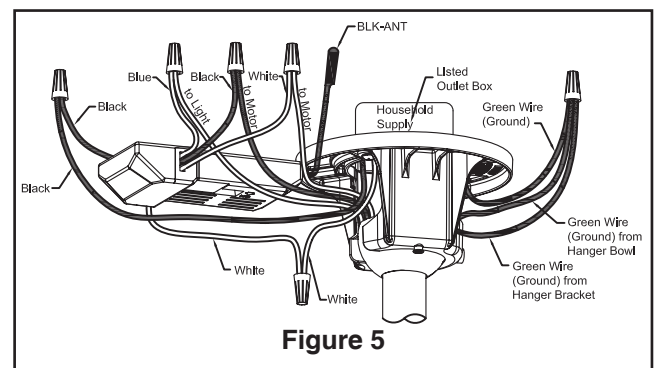

Figure 5
- 5. Route wires through Motor Coupling Cover, Canopy Screw Cover and Ceiling Canopy. (Figure 5)
4. Connect green wires from hanger bracket and hanger ball to bare (ground) wire using wire connector supplied. Connect black wire from receiver unit marked "AC IN L" to black supply wire using wire connector supplied. Connect white wire from receiver unit marked "AC IN N" to white supply wire using wire connector supplied. Connect white wire from receiver unit marked "TO MOTOR N" to white wire from fan using wire connector supplied with receiver. Connect black wire from receiver unit marked "TO MOTOR L" to black wire from fan using wire connector supplied. Lastly, connect blue wire from receiver to the blue fan light wire using wire connector supplied. Position all connected wires and receiver antenna to allow installation of ceiling canopy (Figure 5).
5. After splicing and making the wire connections, the wires should be spread apart and turned upward with the grounded conductor and the equipment-grounding conductor on one side of the outlet box and the ungrounded conductor on the other side of the outlet box. (Figure 5)
- 5.** If airflow is desired in the opposite direction, turn the fan off and wait for the blades to stop turning. Slide the reverse switch on top of motor assembly to the opposite position and turn fan on again. (Figure 5)